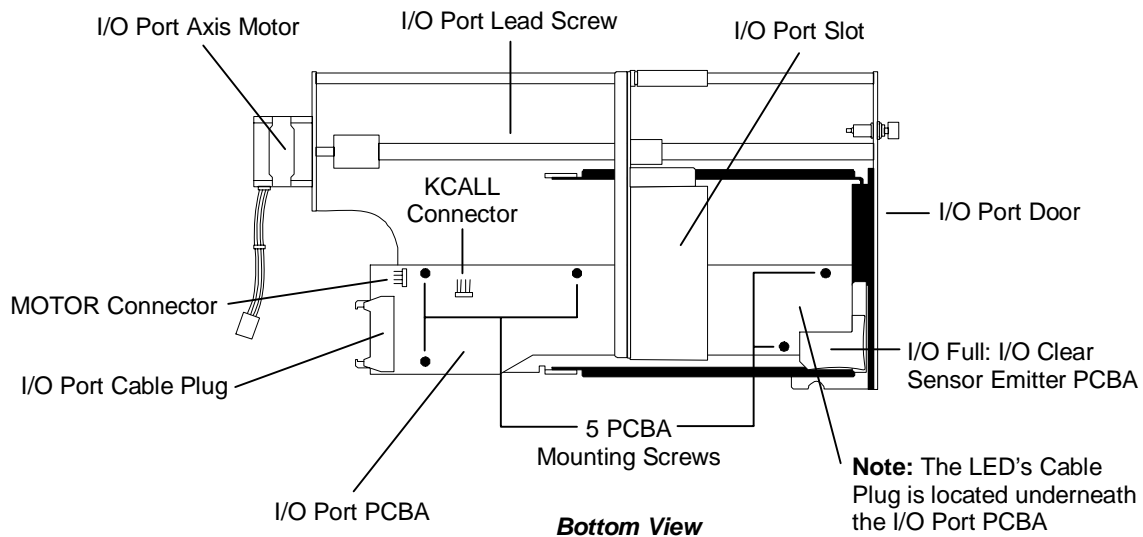

Figure 7-25 I/O Port Assembly
5. Unplug the I/O Port ribbon cable from the I/O Port PCBA (Figure 7-25).
2. Gently turn the I/O Port Leadscrew by hand to position the I/O Port Slot in the middle of the I/O Port Assembly, so that it will clear the upper Magazine when the assembly is installed in the library (Figure 7-25).
6. Plug the I/O Port ribbon cable into the IOPORT connector on the PCBA (Figure 7-25).
2. Gently turn the I/O Port Leadscrew by hand, to move the I/O Port Slot away from the five PCBA mounting screws (Figure 7-25).
6. Remove all five PCBA mounting screws (Figure 7-25).
1. If necessary, gently turn the I/O Port Leadscrew by hand, to move the I/O Port Slot away from the five PCBA mounting screws holes in the I/O Port Assembly's frame (Figure 7-25).
2. Lower the I/O Port PCBA into the I/O Port Assembly and install all five PCBA mounting screws (Figure 7-25).
3. Connect the Motor cable at the MOTOR connector on the I/O Port PCBA (Figure 7-25). Note that the connector is keyed for correct orientation.
4. Connect the Call Switch cable at the KCALL connector on the I/O Port PCBA (Figure 7-25). Note that the connector is keyed for correct orientation.